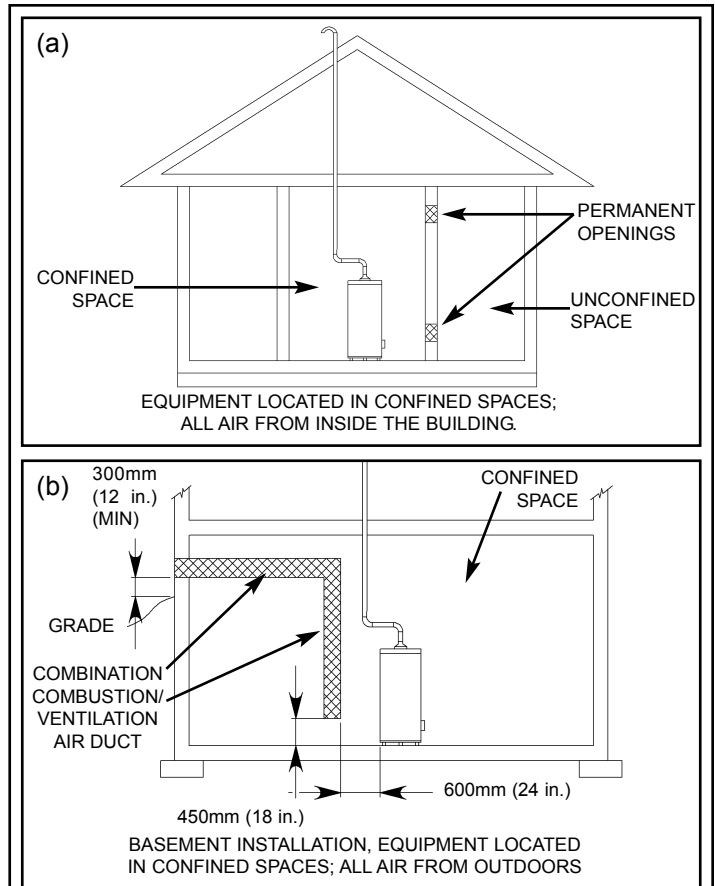

Figure 5 Combustion Air Supply Openings And Ducts (Can.)
Refer to Figure 5 (a), or (b), and Table 1 for proper sizing and location of combustion air ducts and openings. **CHECK LOCAL CODES.**
- (a). Two permanent openings shall be provided connecting the confined space (e.g., closet, small room) with the unconfined space. Each opening shall have a free area of one square inch per 1,000 BTU/hour input (22 cm²/kW) of all appliances in the confined space. The top opening shall be located as close to the ceiling as practical but never lower than the top of the heater. (see Figure 5 (a)). The bottom opening shall be located neither more than 450mm (18 in.), nor less than 150mm (6 in.), above floor level.
(12 in.) equals 450mm (18 in.) as shown in Figure 5 (b). All exterior vent openings are to be at least 300mm (12 in.) above the ground and clear of snow levels.